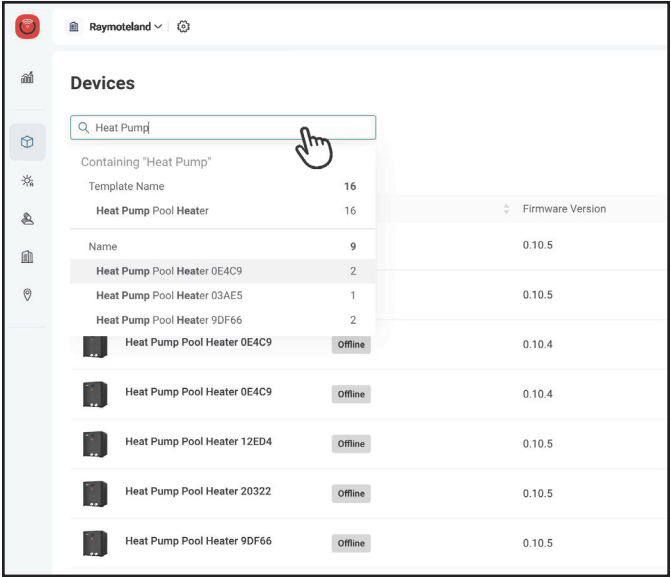

Figure 46. Search Functions
2. Select the search desired search category see Figure 46.